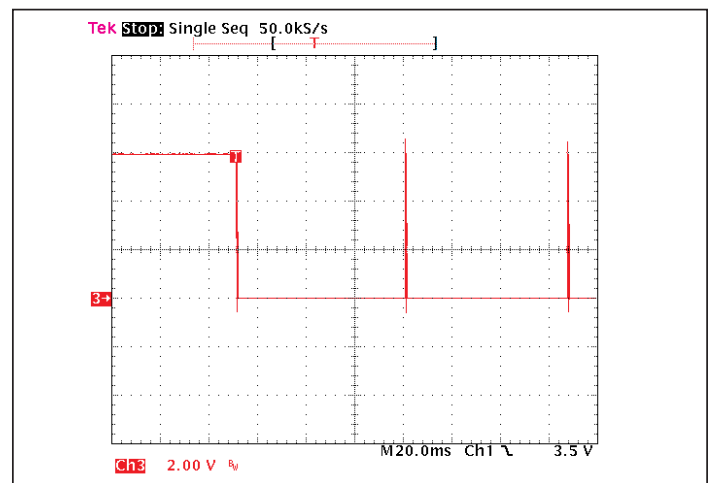

Figure 13— PC signal during fault
**Alarm** – The BCM contains circuitry that monitors output overload, input over voltage or under voltage, and internal junction temperatures. In response to an abnormal condition in any of the monitored parameters, the PC port will toggle. Refer to Figure 13 for PC alarm characteristics.